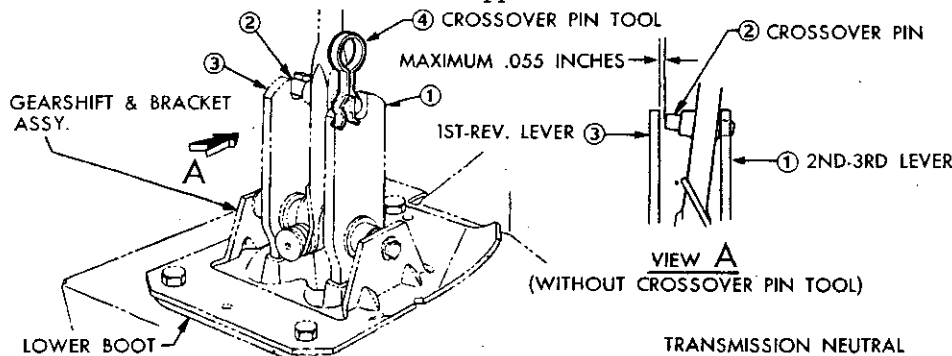

FIG. 1
2. WITH BOTH GEARSHIFT & BRACKET ASSEMBLY AND LOWER BOOT INSTALLED, CLIP THE CROSSOVER PIN TOOL OVER 2ND-3RD END OF CROSSOVER PIN SO THAT PIN ENGAGES BOTH LEVERS. (SEE FIG. 1.)